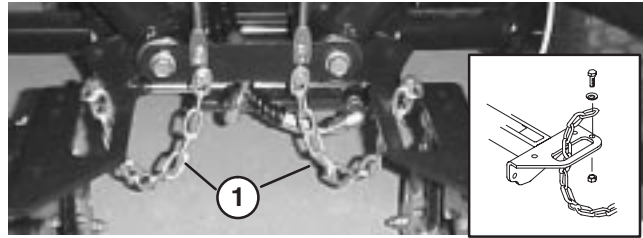

Figure 21
4. Route a tipper chain up thru slot in end of each carrier frame. Secure tipper chain to top of carrier frame with a capscrew, washer and locknut (Fig. 21).